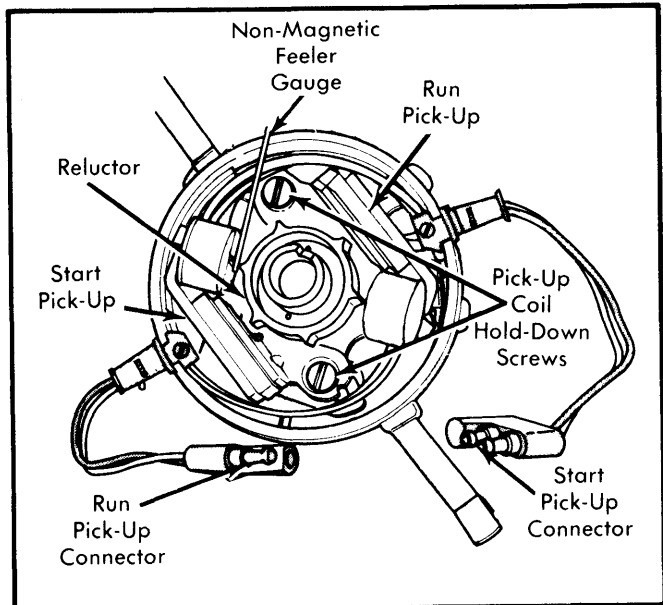

Fig. 14 Checking Distributor Pick-Up Coil Air Gap
13) Remove distributor cap and rotor and check reluctor-to-pick-up coil(s) air gap. Air gap for single pick-up coil distributor should be .006". On dual pick-up coil distributors, air gap should be .006" for start pick-up coil and .012" for run pick-up coil. If not to specifications, adjust air gap using a non-magnetic feeler gauge. See Fig. 14.